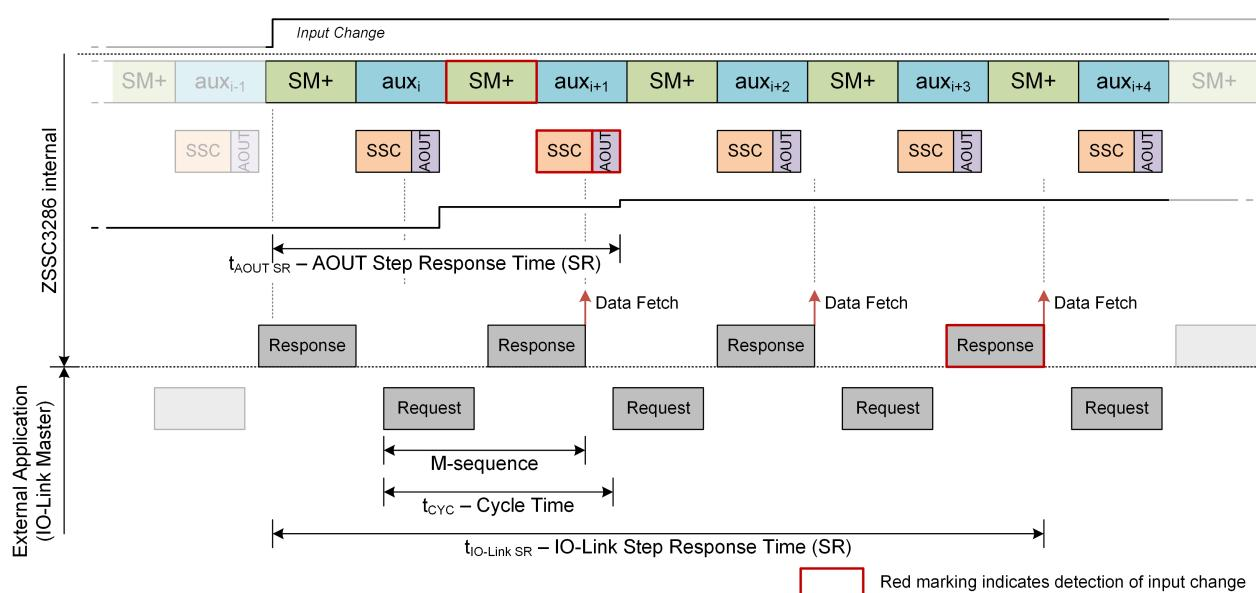

Figure 25: Measurement Flow and Latency for SM+/AZ Configuration
As shown in Figure 25, the worst-case latency consists of:
- SM+/AZ configuration: refer to Figure 25 and description for step response in subsubsection 4.6.4